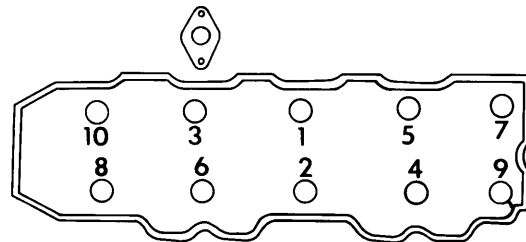

Fig. 1 Cylinder Head Tightening Sequence
- 2) Paint mating marks on camshaft sprocket and timing chain. Remove rubber half circle seal, distributor drive seal and cam sprocket retaining bolt and remove sprocket from camshaft, allowing sprocket and chain to rest in cylinder head. Remove chain cover bolt, then remove cylinder head bolts in reverse of tightening sequence (See Fig. 1).
- 3) Pry equally on front and rear of rocker arm assembly and remove same. Lift off cylinder head using care to clear locating dowels. Do not pry between cylinder head and block. To install, reverse removal procedure and note the following: Apply liquid sealer at two front corners of block. Make sure valve timing and clearance is correctly set. Tighten cylinder head bolts in three steps to specified torque and in sequence indicated (See Fig. 1). Set ignition timing statically at 8°BTDC, then reset with timing light.